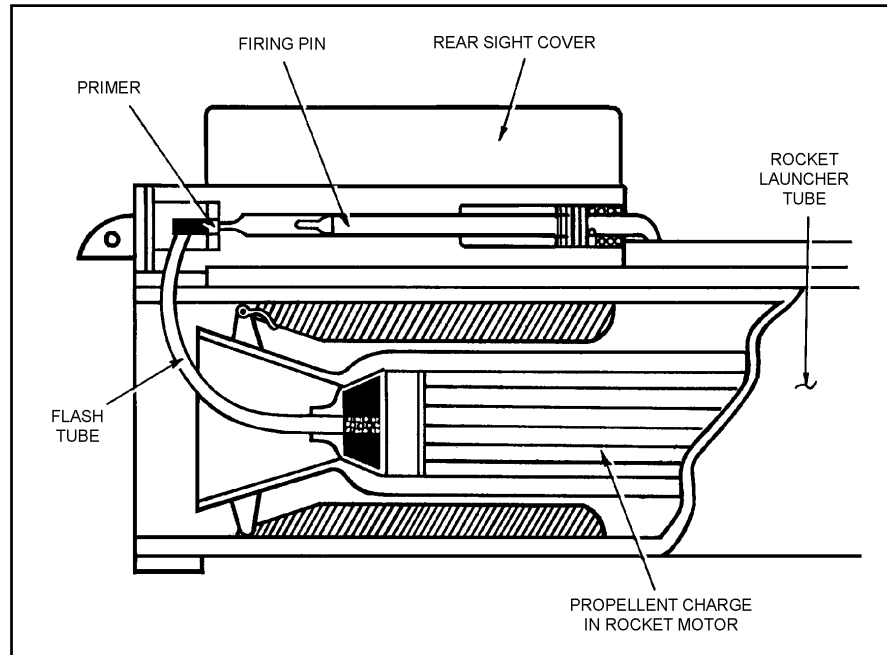

Figure 2-8. Firing pin, primer, and propellant charge.
c. **Firing Pin Rod Assembly.** The rear sight cover and the firing pin housing are on the top of the rear of the inner tube. Inside the housing, the primer and the firing pin rod are aligned (Figure 2-8). Pressing the trigger bar releases the tension on the firing pin rod assembly, allowing the firing pin to strike the center of the primer.